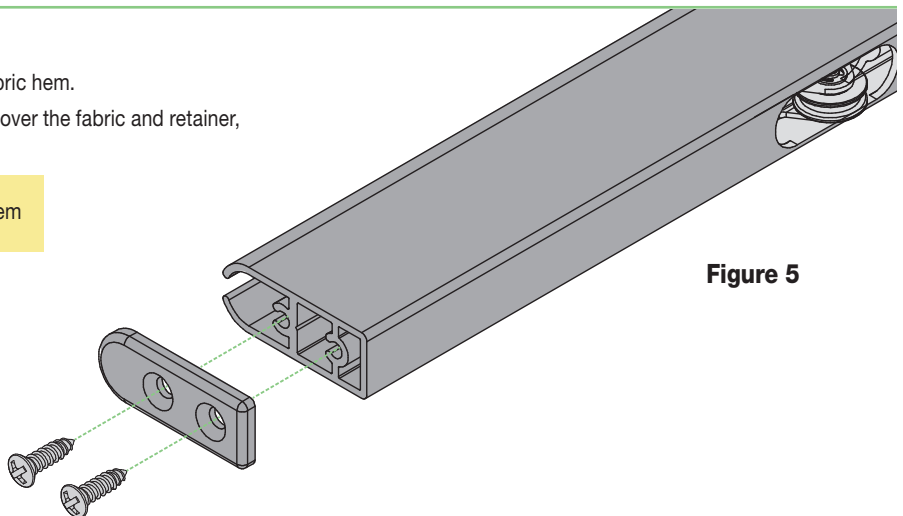

Figure 5
1. Remove one of the endcaps from the fabric hem bar (Fig. 5).